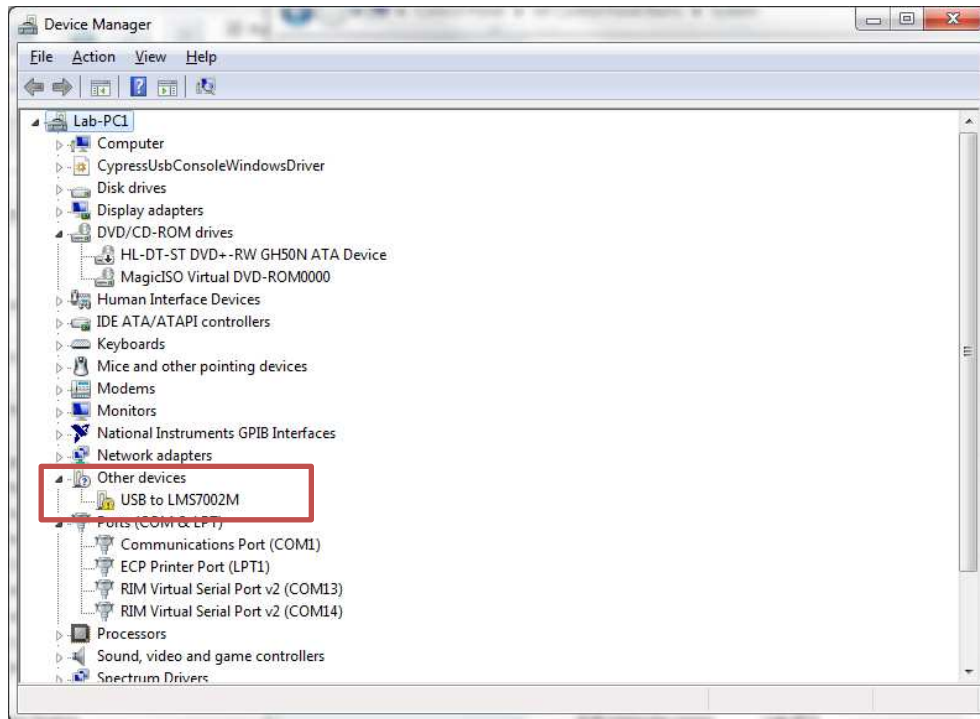

Figure 3 Device Manager content
3. Locate **USB to LMS7002M** under **Other devices** and press right click to select **Properties** (*Figure 3*)